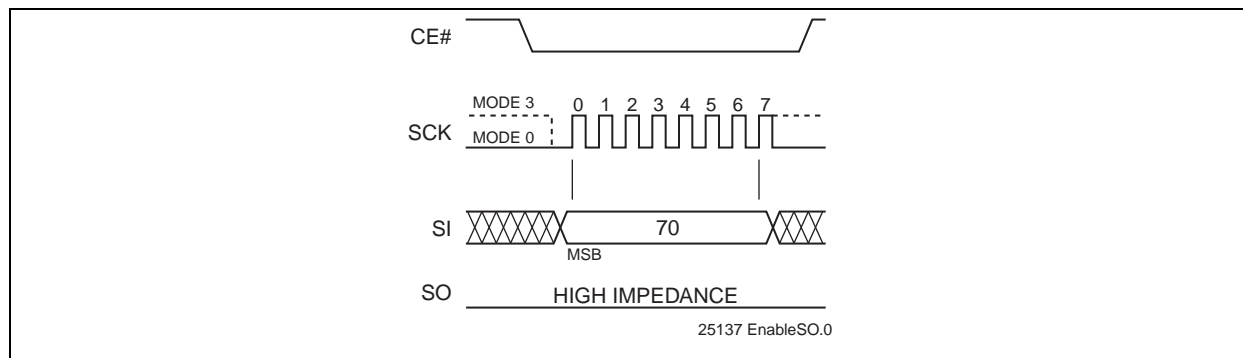

FIGURE 4-6: ENABLE SO AS HARDWARE RY/BY# DURING AAI PROGRAMMING
The Hardware End-of-Write detection method eliminates the overhead of polling the Busy bit in the Software Status Register during an AAI Word program operation. The 8-bit command, 70H, configures the Serial Output (SO) pin to indicate Flash Busy status during AAI Word programming. (see Figure 4-6) The 8-